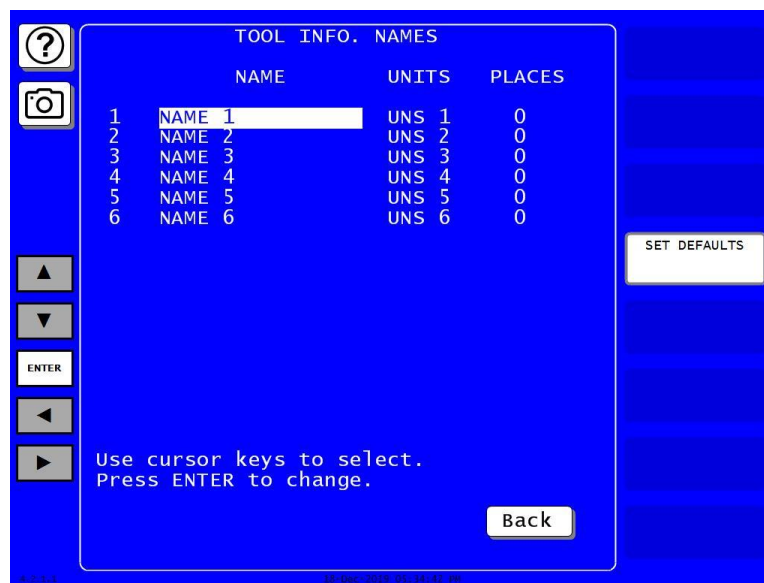

Figure 4-17. Tool Information Setup Screen
1. Select TOOL INFORMATION on the Main Initialization Menu. The Tool Information Setup screen, Figure 4-17, displays.